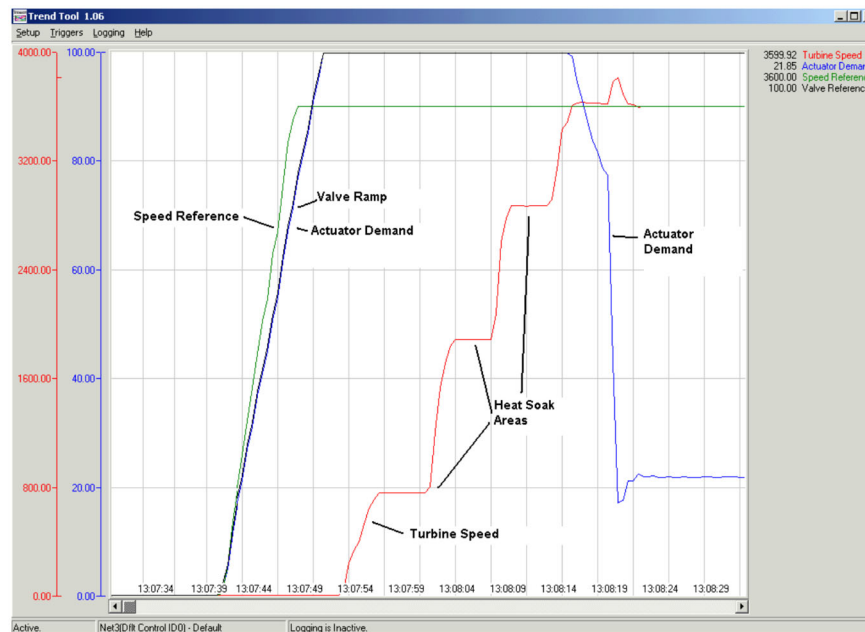

Figure 4-4. Manual Start-Up
- Figure 4-4 is an example of a manual start sequence.